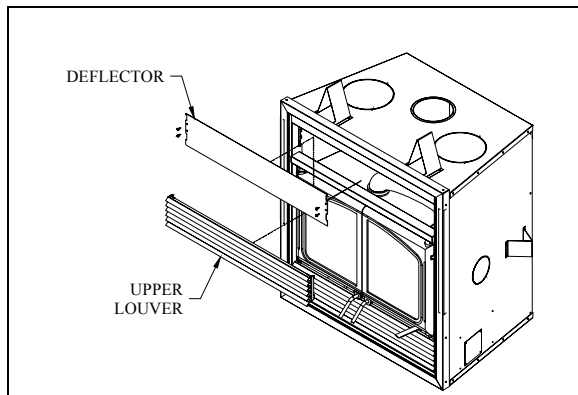

Figure 12
- Install the deflector as shown on figure 12;